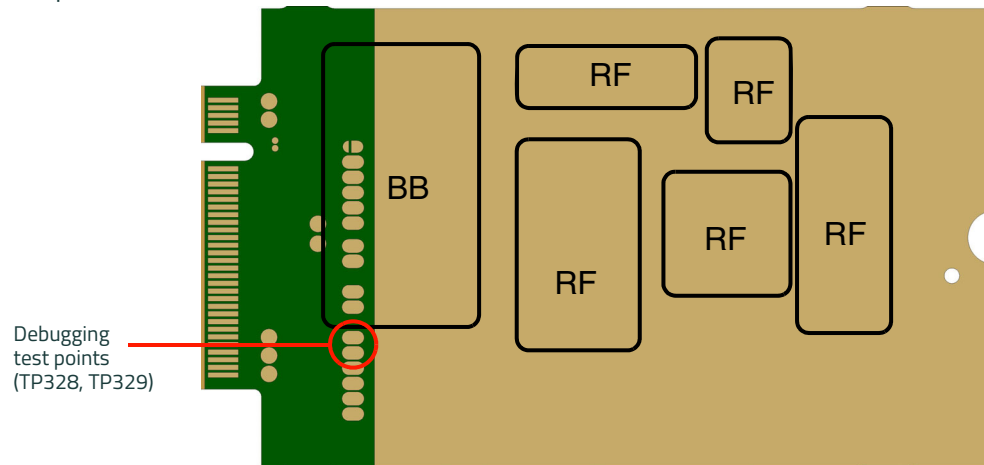
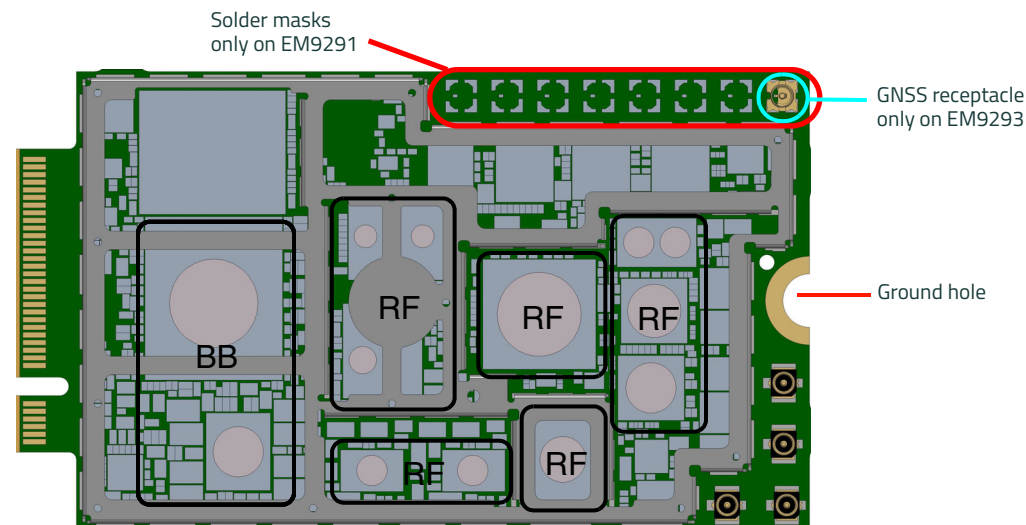

Figure 6-6: Regions requiring thermal dissipation (Bottom view)
Figure 6-7: Regions requiring thermal dissipation (Top View)
Sierra Wireless recommends that the host device dissipate heat from the bottom surface of the module PCB and, if desired, from the top surface of the module shield. Figure 6-6 and Figure 6-7 display the locations of significant heat sources (BB — baseband components, RF — RF components) that require heat dissipation.
Note — Sierra Wireless recommends that the debugging test points (TP328 and TP329, see Figure 6-6) remain accessible for Sierra Wireless to assist in system debugging. Make sure the test points are not shorted to anything.
- Monitor temperature at all shield locations. Attach thermocouples to the areas indicated in Figure 6-7 on page 71 (RF, Baseband).